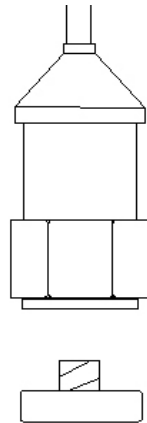

Fig. 3
5) If the surface material of measuring article is the ferrous material, connect " Vibration sensor " (3-13, Fig. 1) with the " Magnetic base " (3-14), refer Fig. 3.